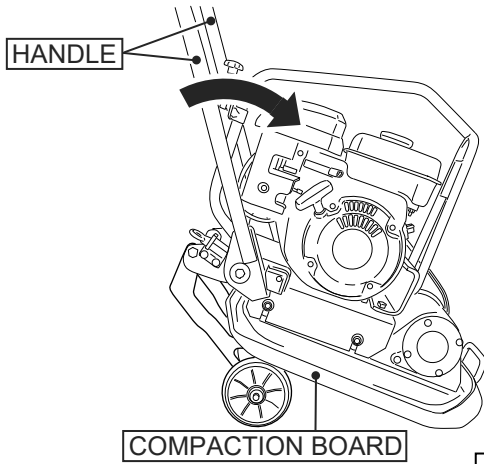

Fig. 8
1. Let the end of the compaction board touch the ground, then tilt the handle forward to make the wheel move away from the ground. (Fig. 8)